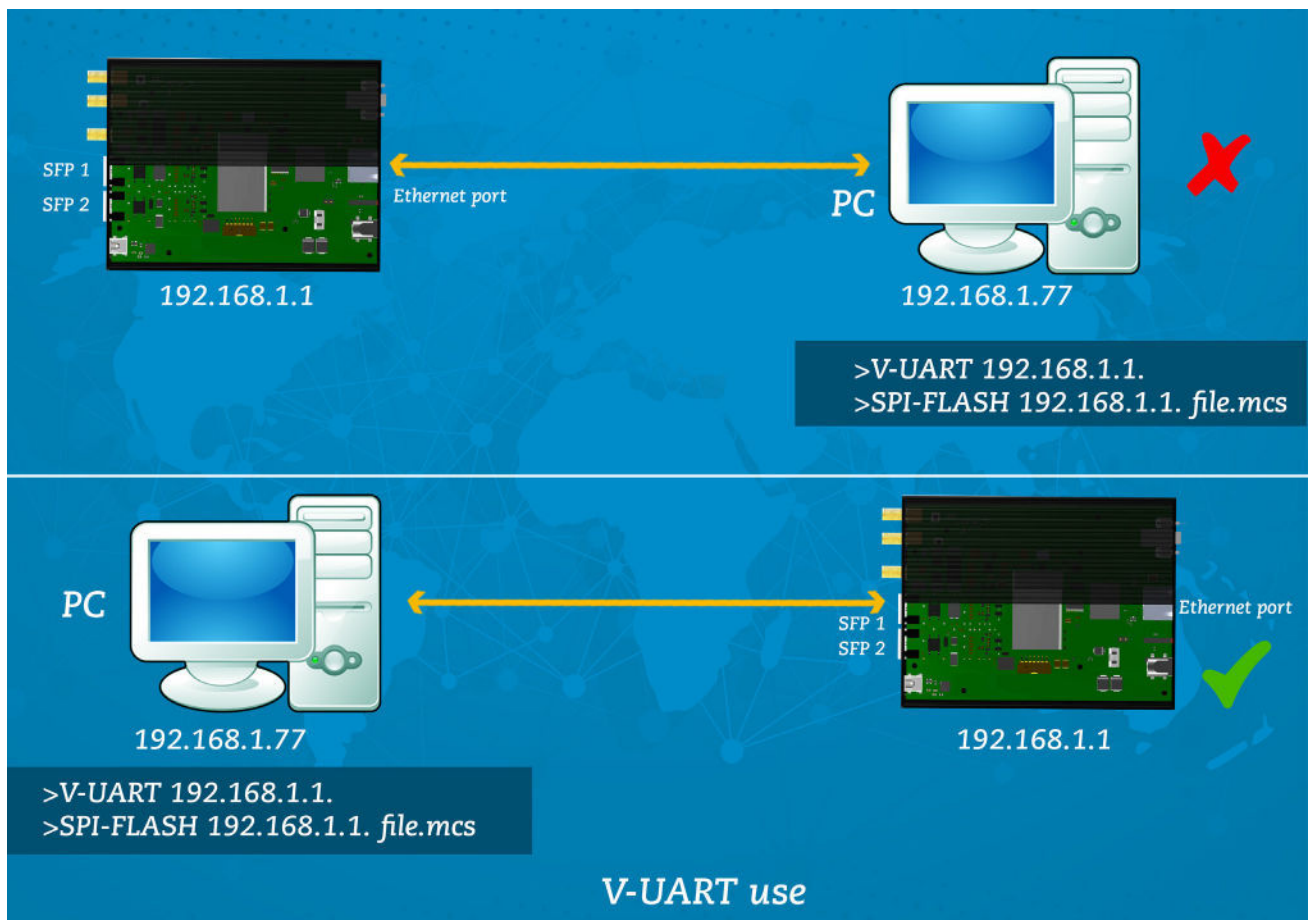

Figure 9: EB and V-UART connection
2. **The V-UART module is only reachable from the SFP ports.** The remote connection by the v-uart was explained at subsection 3.1. The user must know that the v-uart connection must take place through the SFP ports. Figure 9: EB and V-UART connection shows how the devices must be connected in case that the user wants to open a v-uart connection or remotely flash the node.